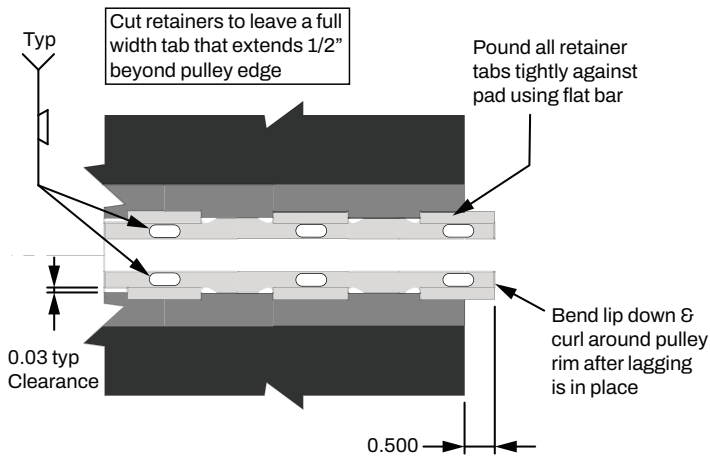

Figure 2 - Retainer for bent retainer method
2. Remove the lagging pad and plug weld the double retainer into the pulley face through a minimum of three pre-punched holes using the procedures shown in Welding Procedures. If using Option B, the retainer should extend beyond the end of the pulley by one-half inch so that it can be hammered over to hold it in place (See Figure 2).